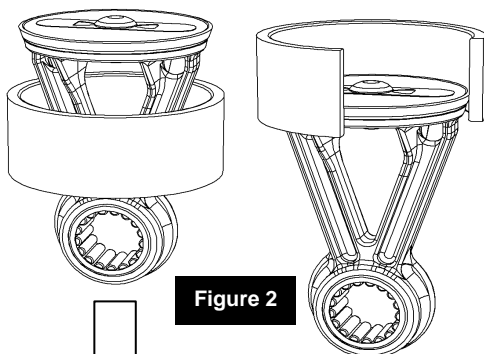

Figure 2
8. With the new PISTON ASSEMBLY (09) and BARREL (08) assembled together, put them in place on the compressor motor.
**NOTE:** Be careful not to damage to the piston seal. The seal forms a cup shape and must be assembled into the barrel in the correct direction. Place the bearing end of the piston into the barrel first then pull the piston into the barrel as shown in Fig. 2.
9. Align the piston bearing then insert the AXLE (10) through the bearing so that it seats firmly into the pocket in the motor.
11. Using a torque wrench tighten the M4 CAP SCREW (11) to 6.0Nm (4.4 ft-lb), or the M5 CAP SCREW (11) to 10.0Nm (7.4ft-lb). Use the same technique with the screwdriver as in step 3 to prevent the piston from moving through a full stroke.